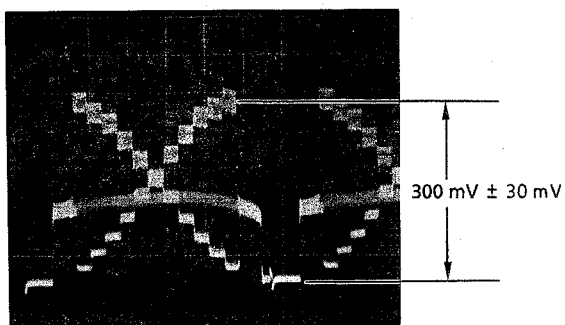

Fig. 4-3
- Adjust data by **ARROW** keys so that signal level becomes 300 mV ± 30 mV as shown in Fig. 4-3.